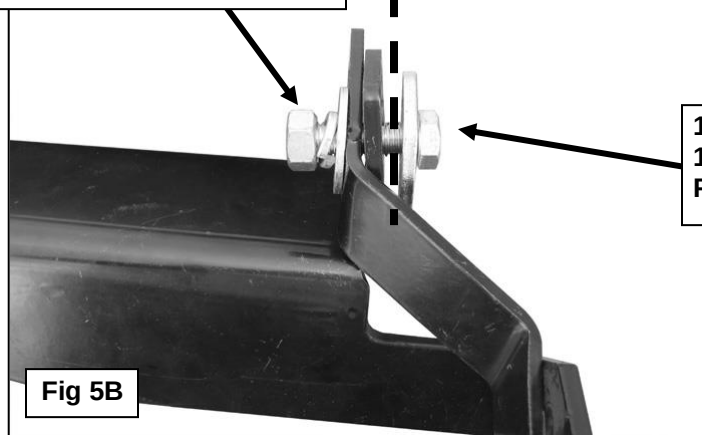

Fig 5B
- Insert (1) 12mm x 45mm Hex Bolt with (1) 12mm x 37mm Large Flat Washer up into the bottom of the chassis mount and out through the large hole in the side and through the tab on the Mounting Bracket, **(Figure 5B)**. Select the driver side Support Bracket, **(Figure 5A)**. Slide the top, (angled end), of the Support Bracket over the Hex Bolt and secure with (1) 12mm x 32mm STD Flat Washer, (1) 12mm Lock Washer and (1) 12mm Hex Nut, **(Figure 5C)**. Do not tighten hardware at this time. **IMPORTANT:** Make sure that the large 12mm Flat Washer is inside the chassis mount over the large hole in the side of the mount. Access the Hex Bolt through the outer opening in the chassis mount, **(Figure 6)**.